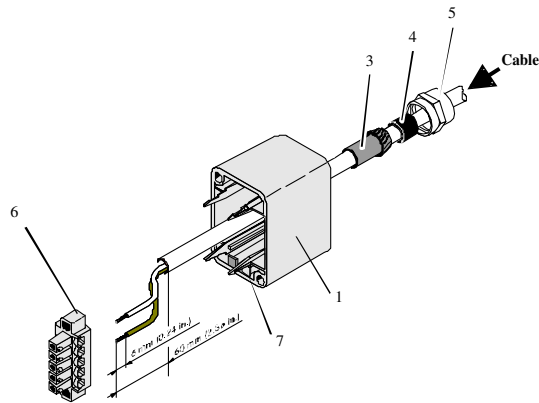

Figure 4: Mounting for the cable
- Remove all inner parts from the cable pipe at the SAB Cab (1) ( nut (5), cable fastener (3), pipe(4)) (see Figure 4)
- Put all the removed parts (nut (5), cable fastener (3), pipe (4),) and the cable pipe of the SAB Cab as well (1 to 4) to the cable.